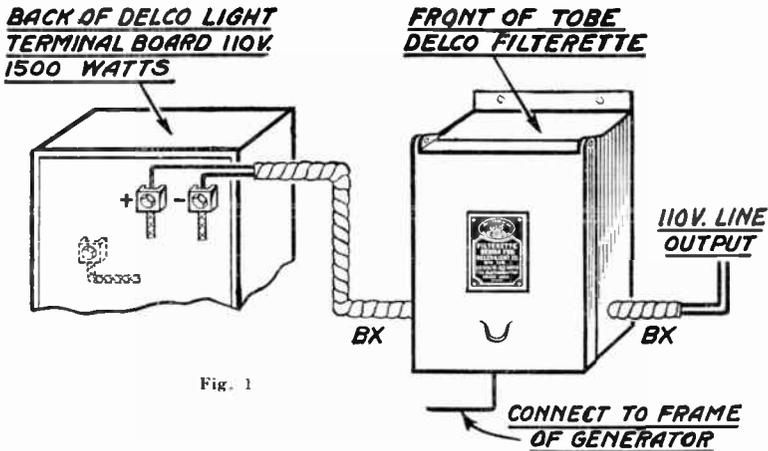

Fig. 1
A. Tobe Delco Filterette type DM 110 designed especially for application to the Delco Farm Lighting Plant is readily adaptable to any 1500 watt 110 volt farm lighting plant. This Filterette should be connected directly in series with the output leads from the generator as shown in Figure 1, and the return wire from the Filterette should be connected to a carefully cleaned part of the generator frame. This Filterette consists of two sections; the first for connection in series with the output leads from the generator as previously described, and the second for connection in series with the common input lead to the distributor. The second section of the Filterette is provided with a plug terminal and socket which